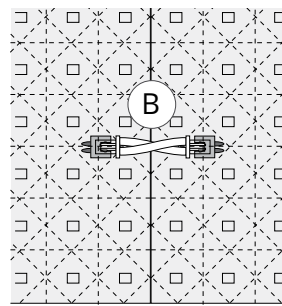

Figure 1
Short sheet-to-sheet connectors (B): When adjacent Auragami Light Sheets are mounted side-by-side with connection blocks aligned, the shorter sheet-to-sheet connection wires (B) should be used to interconnect multiple sheets. Their lengths are optimized so sheets align snugly. See Figure 1.